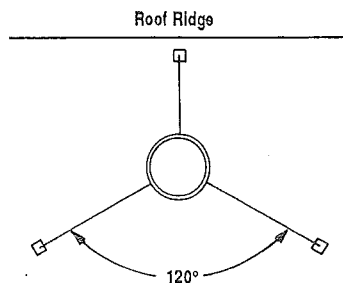

Figure 33
Note: If chimney extends more than 8' (2.4m) above roof surface, guy wires are also recommended. Use three (3) guy wires, attach to locking band assembly, extend and secure to roof in a triangular pattern (Figure 33). Guy wires are not supplied by Superior.